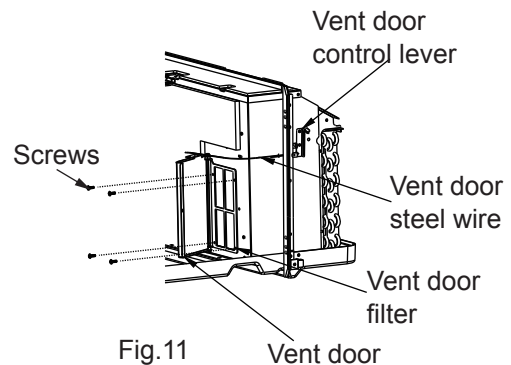

Fig.11
- Remove four screws from the vent door filter. (See.Fig.11)
- First pull out the vent door steel wire from the hole of the vent door, then take off the vent door and filter. (See.Fig.11)